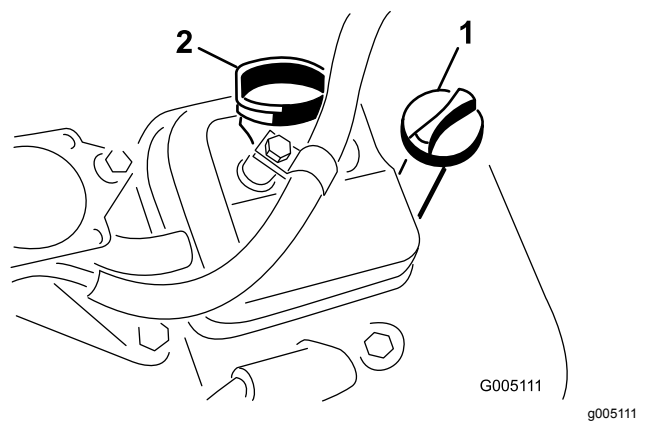

Figure 28
3. Insert the dipstick into the dipstick tube and thread it into the tube (Figure 28).